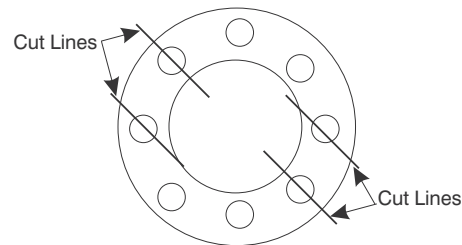

Figure 8-38. Cutting Pattern for Shock Absorber
5. Use a sharp knife or hack saw to cut through the Shock Absorber (9), and remove it from the Valve Guide (7). See Figures 8-38 and 8-39.